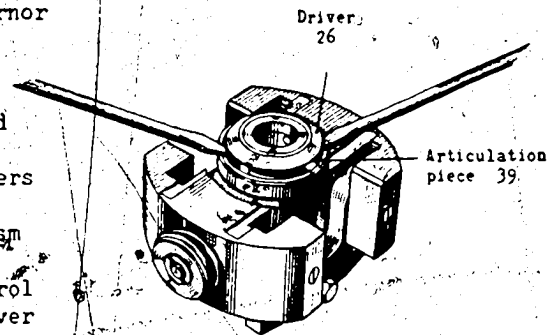

Fig. 2 Detaching the driver
3. Remove link pin (16). Suspend link fork (20) temporarily.
4. Unscrew castle-nut (9). Remove cover disc (8), washers (5) and floating lever (22). Remove slider (articulation piece) (4) and remaining washers. (Care: Do not interchange the washers placed in front of, and behind, the slider!)
5. Bend up lock washer (23), unscrew both hexagon nuts, extract coupling bolt upwards, and remove adjusting pin (1) (link pin).
6. Remove guide bush (3).
7. Holding the camshaft on the coupling or on the injection timer, unscrew round-nut (fixing nut) (29) with spanner EP 8101 E (for governor size A) or EF 8101 D (for governor size B).
8. After screwing the extractor EF 8449 (for governor size A) or EF 8207 (for governor size B) into the driver (26), detach the latter from the camshaft.
9. Lift the driver (the governor hub) (26) off the articulation piece (39) with the aid of two screwdrivers (see Fig. 2), then remove rubber buffer (30).